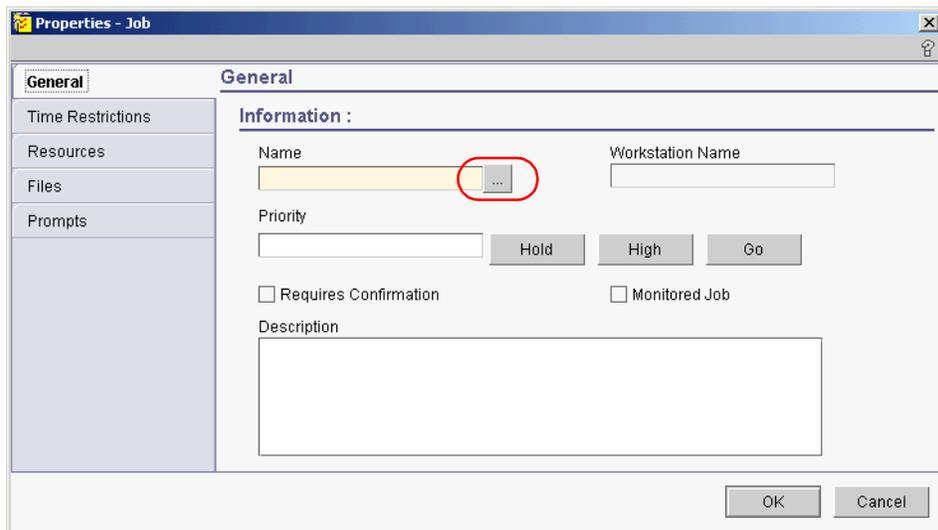

Figure D-7 Properties - Job
5. From the menu, select **Actions** → **Add Job** → **Job Definition**. The Properties - Job window is displayed, as shown in Figure D-7.